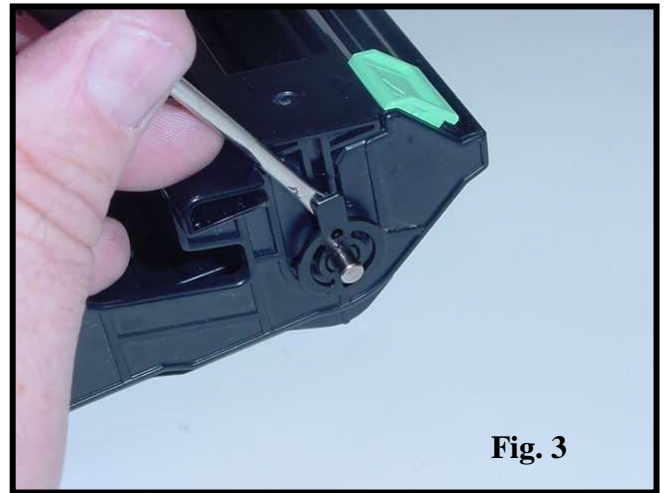

Fig. 3
3. Use a small flat head screwdriver to gently pry out on the axle stabilizer (Fig. 3).